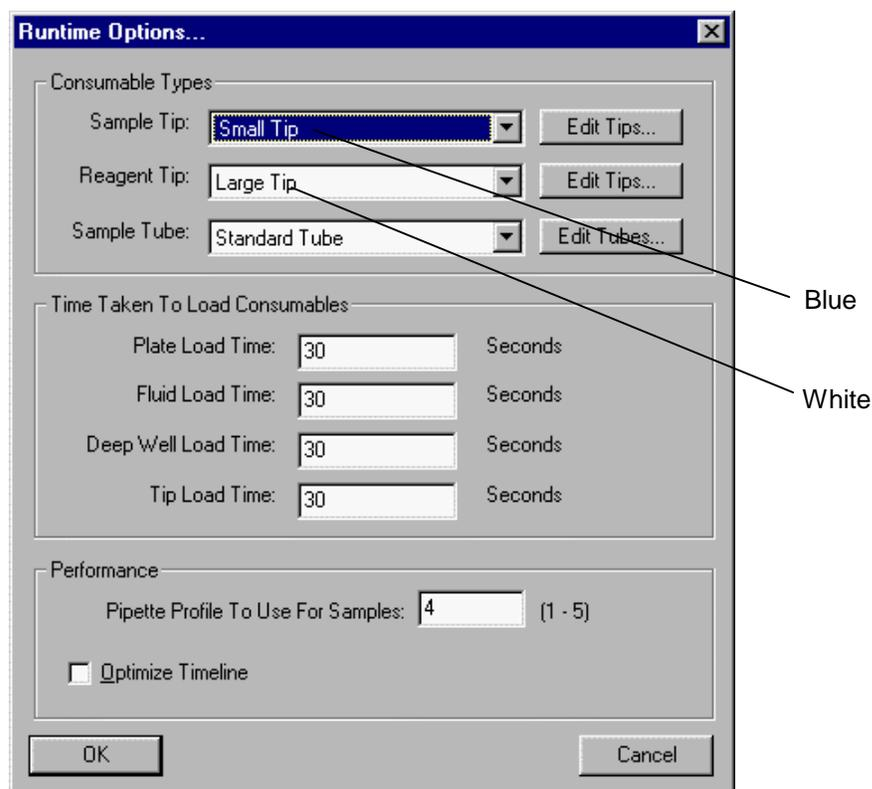

Figure 30. Runtime Options Dialog Box
2. Select **Runtime Options** from the **Timeline** menu. The Runtime Options dialog box (Figure 30) is displayed.
2. Select **Start** from the **Timeline** menu. A prompt to load the first microplate is displayed (Figure 30).